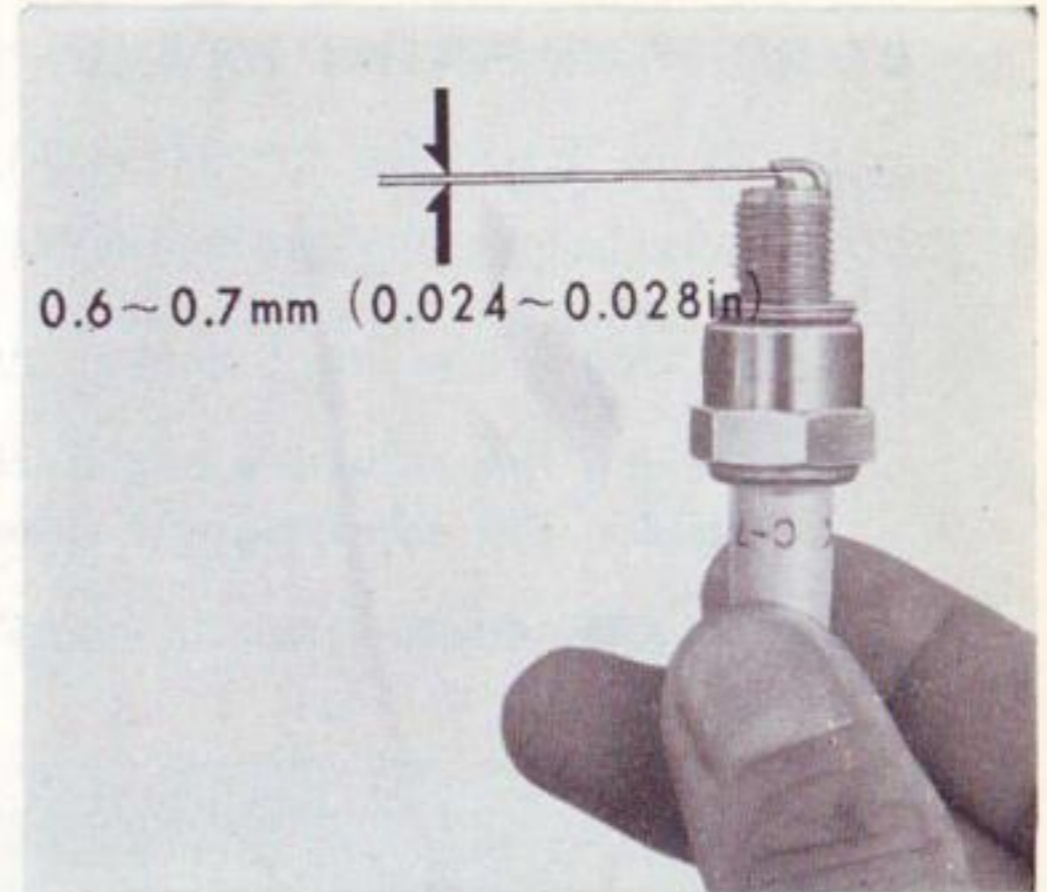

Fig. 31
3. The spark plug gap should be adjusted to 0.6~0.7 mm (0.024~0.028 in). (Fig. 31)